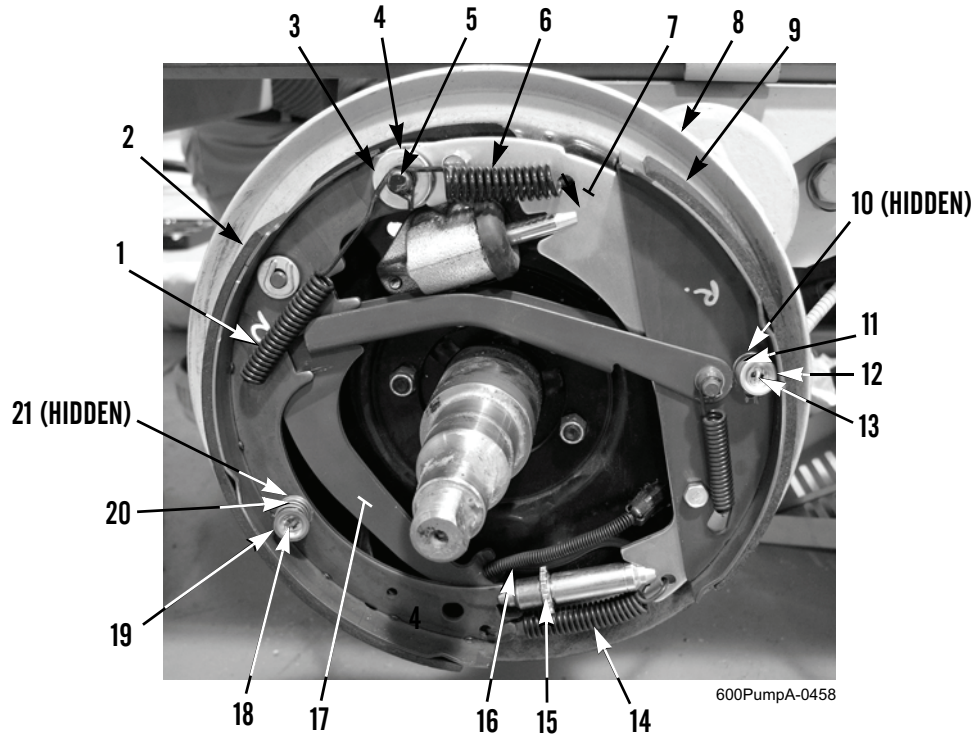

Figure 1. Right-Side Service Brakes.
2. Remove front shoe spring (Figure 1, Item 6) from backing shoe lever (Figure 1, Item 7) and anchor pin (Figure 1, Item 5).
3. Remove rear shoe spring (Figure 1, Item 1) from rear brakeshoe (Figure 1, Item 2) and anchor pin (Figure 1, Item 5).
4. Remove washer (Figure 1, Item 3) from anchor pin (Figure 1, Item 5).
5. Remove retainer (Figure 1, Item 12), spring (Figure 1, Item 11), retainer (Figure 1, Item 10), and pin (Figure 1, Item 13) securing front brakeshoe (Figure 1, Item 9) to backing plate (Figure 1, Item 8).
6. Remove retainer (Figure 1, Item 19), spring (Figure 1, Item 20), retainer (Figure 1, Item 21), and pin (Figure 1, Item 18) securing rear brakeshoe (Figure 1, Item 2) to backing plate (Figure 1, Item 8).
7. Remove spring (Figure 1, Item 14) and brake adjuster (Figure 1, Item 15) from rear brakeshoe (Figure 1, Item 2) and backing shoe lever (Figure 1, Item 7).
8. Remove hand brake cable (Figure 1, Item 16) from parking brake link (Figure 1, Item 17).
9. Remove rear brakeshoe (Figure 1, Item 2) from backing plate (Figure 1, Item 8).
10. Remove link (Figure 1, Item 4) from anchor pin (Figure 1, Item 5) and remove front brakeshoe (Figure 1, Item 9) from backing plate (Figure 1, Item 8).